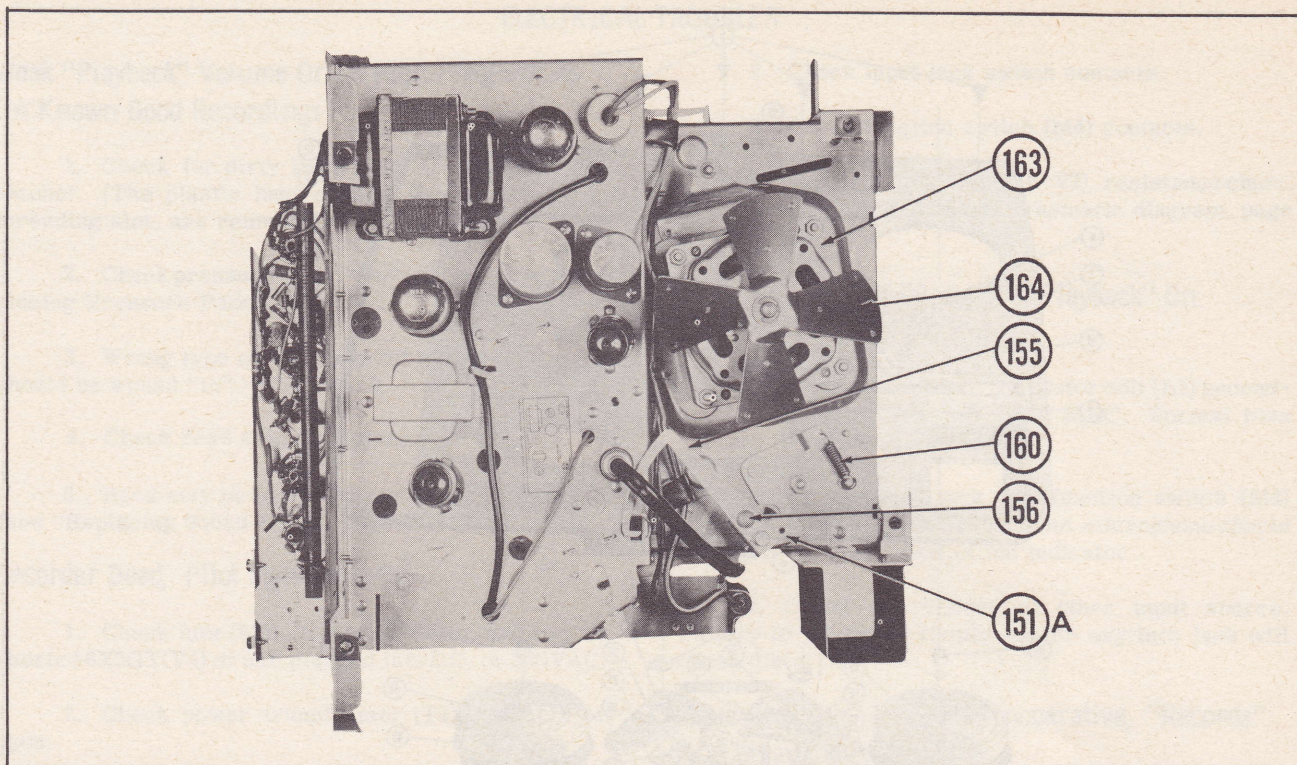

Figure 8.
1. Unplug head plug and motor plug. Both are located on the bottom of the amplifier chassis. (See Fig. 8).
2. Remove speed Change switch arm (155), see Fig. 8, by removing its large Phillips head screw (156).
4. Remove two nuts holding left side of amplifier chassis to mechanism. Nuts are located under wire clamps, near motor (163). See Fig. 8.